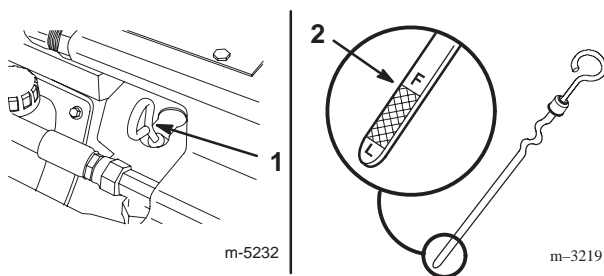

Figure 4
4. Clean around the oil dipstick (Fig. 4).
5. Pull out the dipstick and wipe the metal end clean (Fig. 4).
6. Slide the dipstick fully into the dipstick tube (Fig. 4).